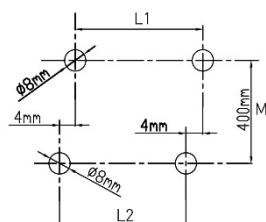

Fig. 2
1. Drill the holes according to the instructions of fig. 2.